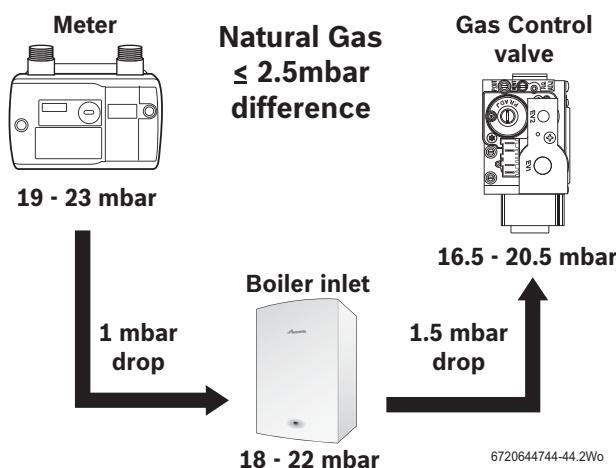

Fig. 43 Natural gas pressures
- Slacken the screw in the inlet pressure test point (1) and connect a manometer.
- Check the gas supply working pressure at the gas valve conforms to values shown in Fig. 43 or Fig. 44 .